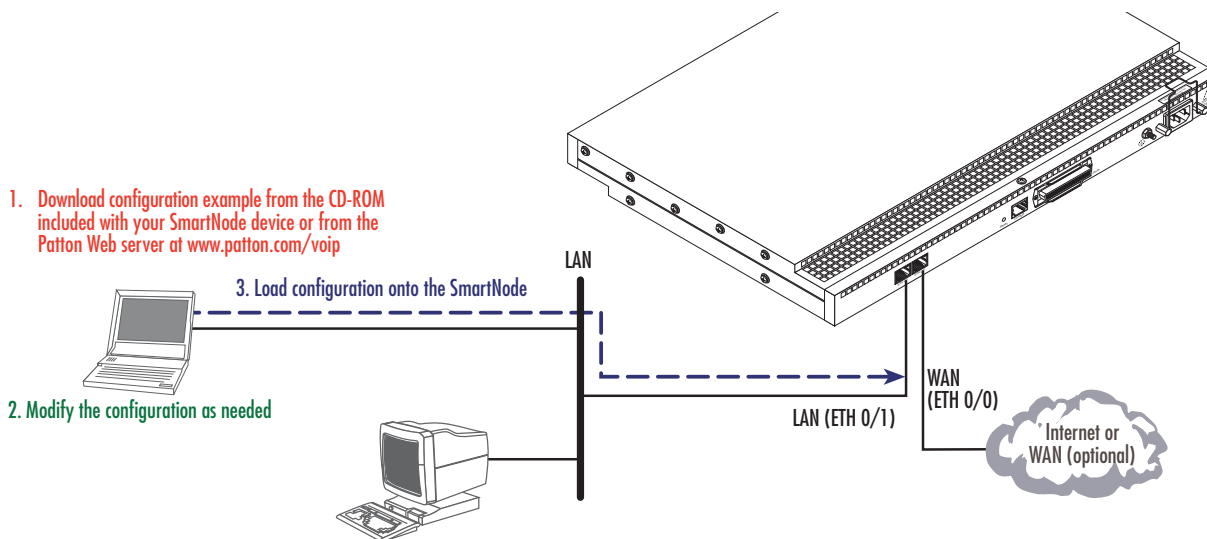

Figure 16. Loading the configuration
3. **Loading the configuration** (see figure 16). Refer to section “2. Connecting the SmartNode to the network” on page 39 for details.